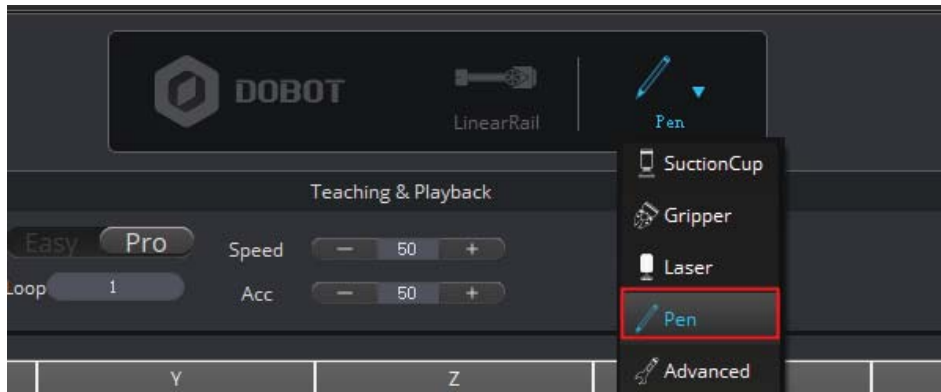

Figure 5.188 Select end-effector
- Step 1** Select **Pen** from the end-effector drop-down list on the DobotStudio page, as shown in Figure 5.188.